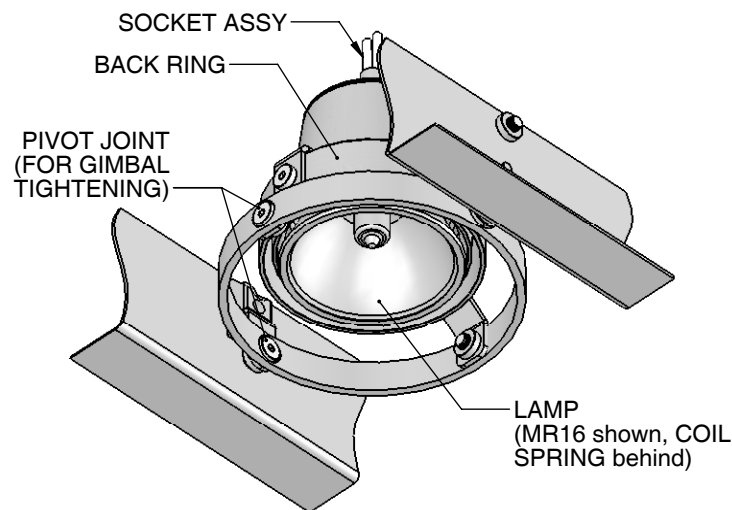

Figure 6
12. Once removed, insert the properly-specified LAMP into the BACK RING, ensure that the LAMP is the correct LAMP for the SOCKET or damage to the fixture or lamp may occur. The LAMP will seat into the COIL SPRING when installed properly. While holding the LAMP in place, grab the SOCKET ASSY and plug or screw the LAMP firmly into it. See Fig. 6.
*If a stronger, more secure lock is required then the PIVOT JOINTS (hex screws) may be tightened *clockwise* with a hex wrench tool. See Fig. 6.